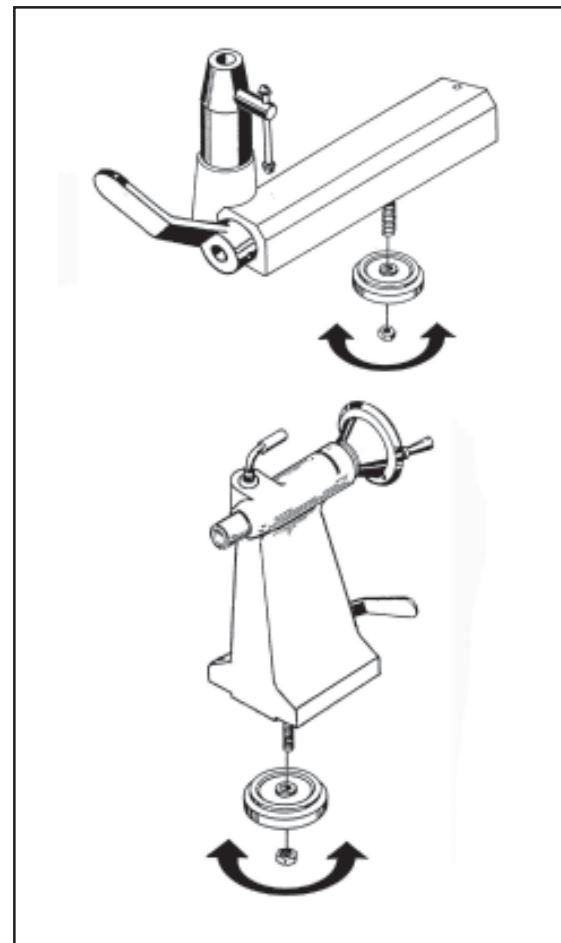

Fig.42
3. Unscrew the nut a little at a time until a smooth sliding action is achieved. The locking lever should now have more rotational travel ensuring a softer but more effective locking. (Figure 42)